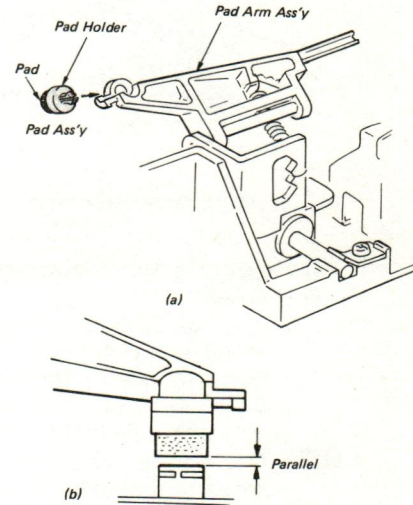

Fig. 4-6 Pad Ass'y Replacement
- Lifting the pad arm tip so that any excessive force may not be applied to the pad arm ass'y, remove the pad ass'y by pressing its rear part. (Refer to Fig. 4-6 (a))
- Pick up pad holder (not pad itself) of pad ass'y lightly and insert pad ass'y into the location on pad arm ass'y. (Refer to Fig. 4-6 (a))
- Pull down the pad arm ass'y, and check if the pad is arranged in parallel with the head as shown in Fig. 4-6 (b).